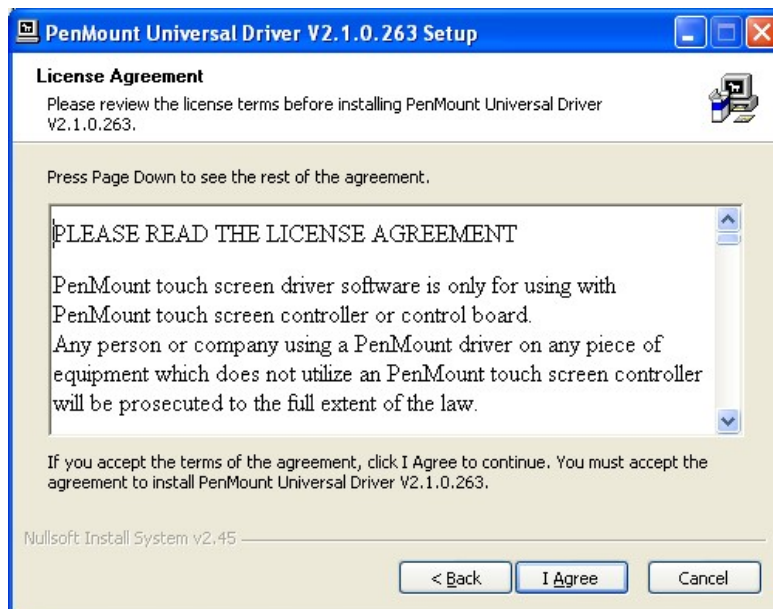

Figure 6-25: License Agreement
Step 6: The **License Agreement** shown in **Figure 6-25** appears.